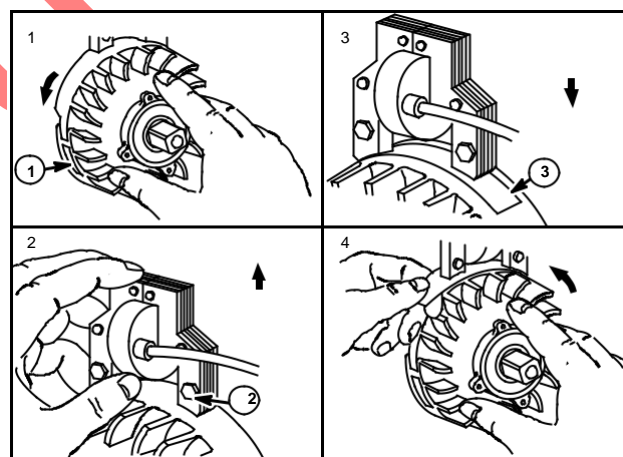

Fig. 20
2. With ignition armature away from flywheel as far as possible and one screw (2) tightened, turn flywheel so magnets (1) are away from armature legs.
3. Place the proper thickness gauge (3) between rim of flywheel and laminations of the ignition armature.
7. Rotate flywheel until gauge is free (4), Fig. 20.